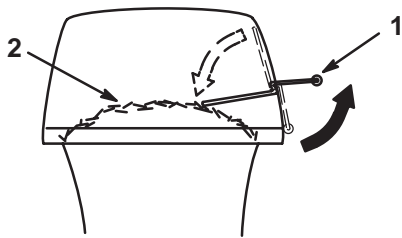

Figure 38
2. To check if both bags are full, periodically raise the full bag tester handle (Fig. 38).
3. If you feel resistance as you raise the handle (Fig. 38), empty the bags.